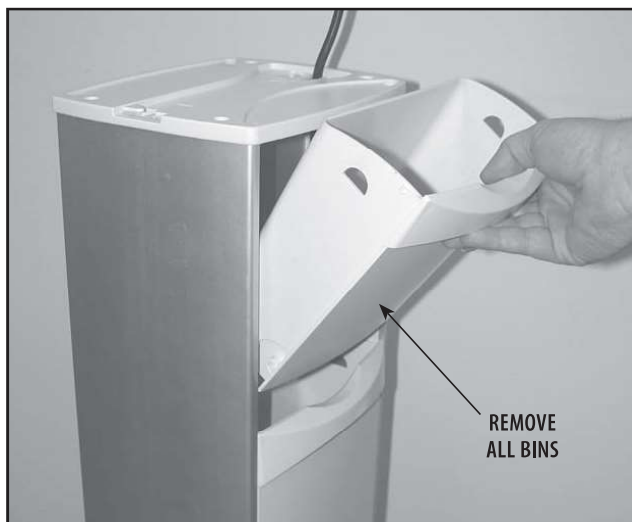

FIGURE 6.49
1. Remove all the Storage Bins from both sides of the Therapy System Cart by pulling each bin out and up. **See Figure 6.49.**